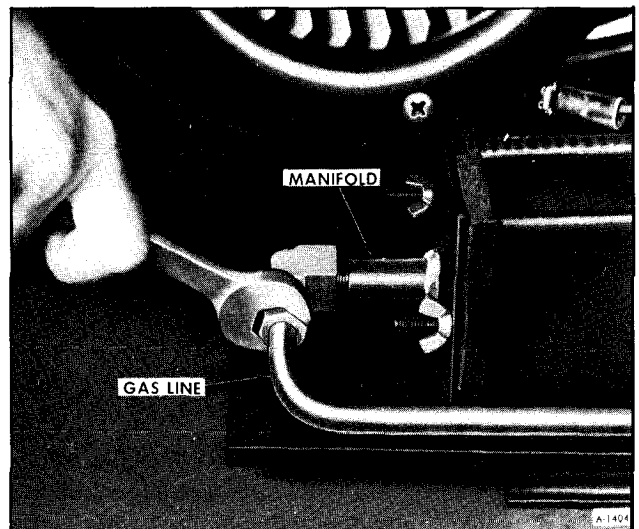

Figure 38—Disconnecting Gas Line at Manifold
2. Disconnect gas line at rear of main burner manifold, as shown in Figure 38.
4. Connect gas line at rear of main burner manifold (figure 38).
2. Disconnect gas line at rear of main burner manifold (See figure 38).
5. Connect gas line at rear of main burner manifold (figure 38).